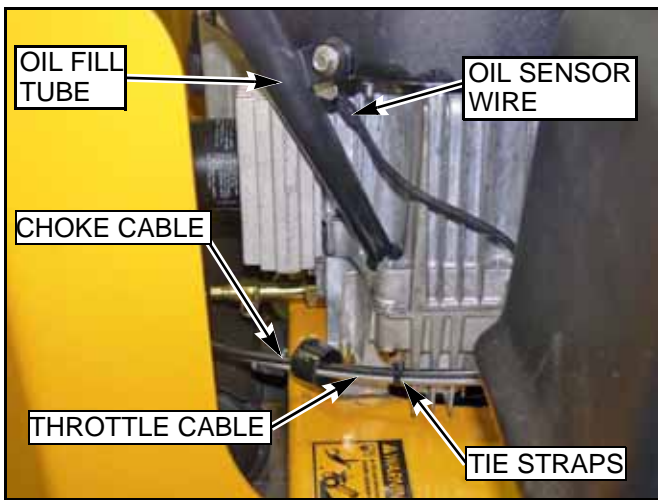

FIG. 5
3. Engine connections (FIG. 5 & FIG. 6).
3. Engine connections (air cleaner removed for clarity) FIG. 5.